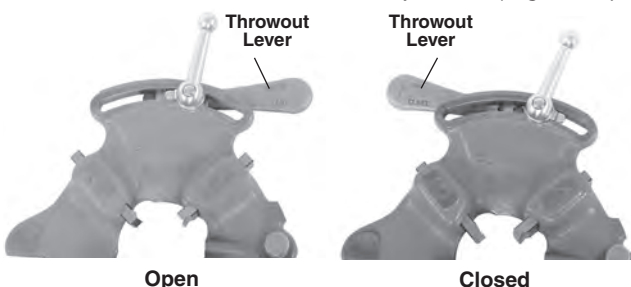

Figure 10 – Open/Closed Lever Position
2. Move throwout lever to OPEN position (Figure 10).